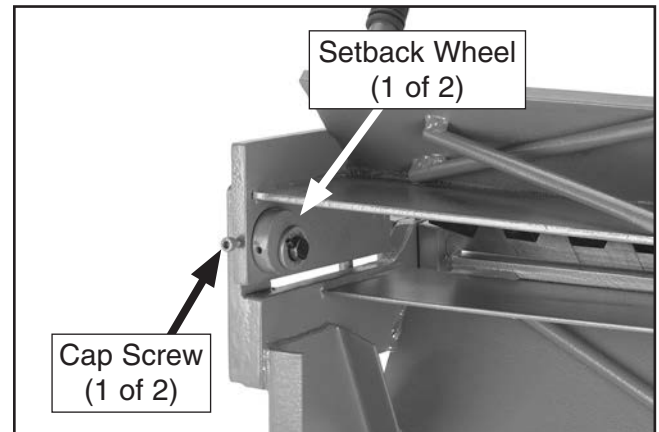

Figure 13. Location of setback wheel and cap screw.
3. Loosen cap screws that secure setback wheels (see **Figure 13**).